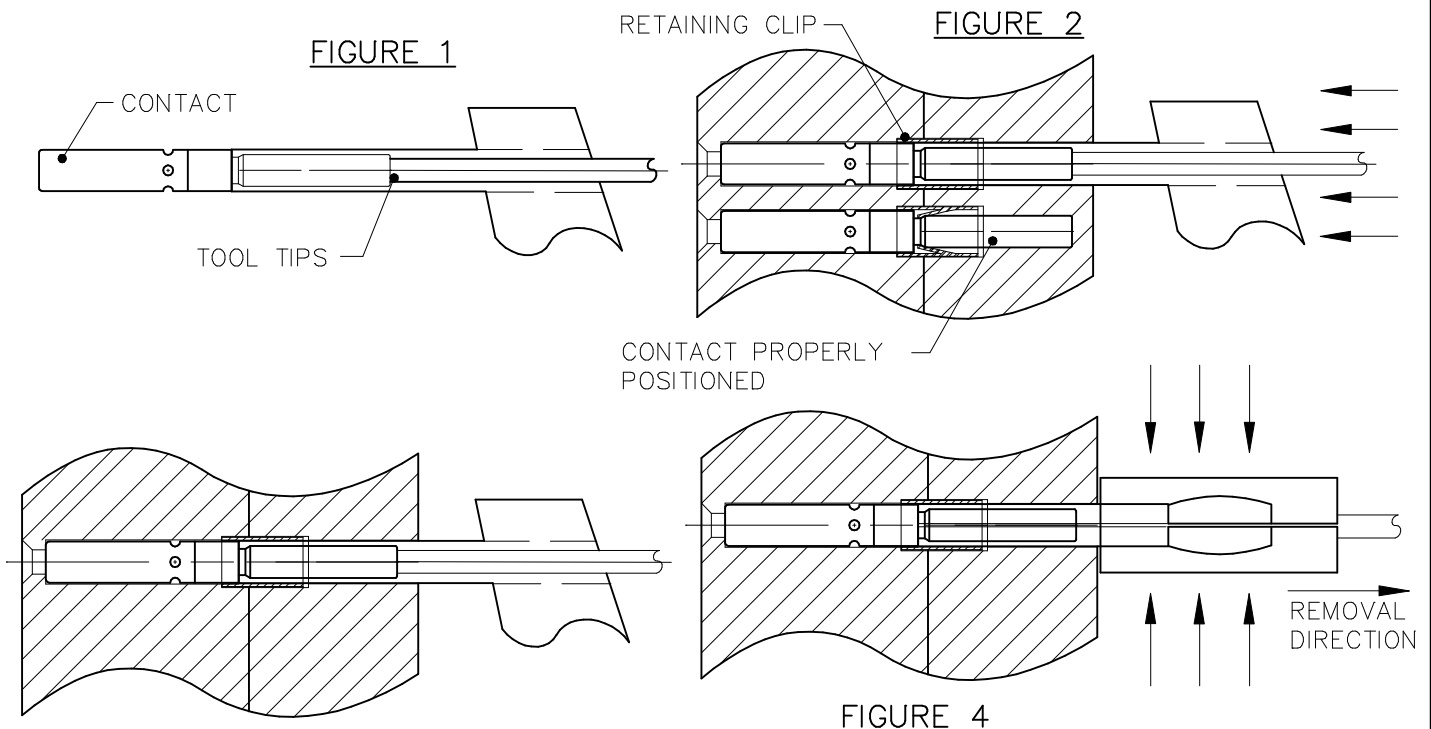

FIGURE 3
3. Exert a firm but gentle and continuing pressure on tool until tips stop against contact shoulder. See figure 3. To avoid damage to tool, connector, and/or contact, do not tip, spread or rotate tool while in connector.